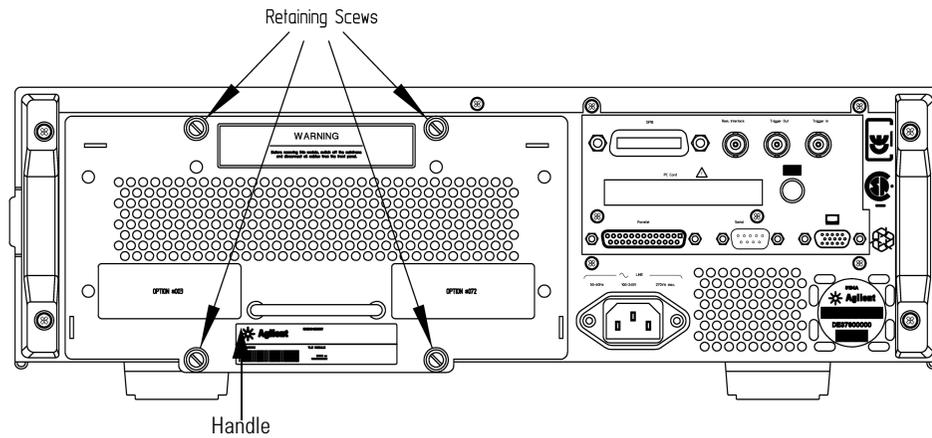

Figure 191 Back Panel of Agilent 8164B Lightwave Measurement System
**1** Untighten the retaining screws, see Figure 191 , that secure the module in the instrument.